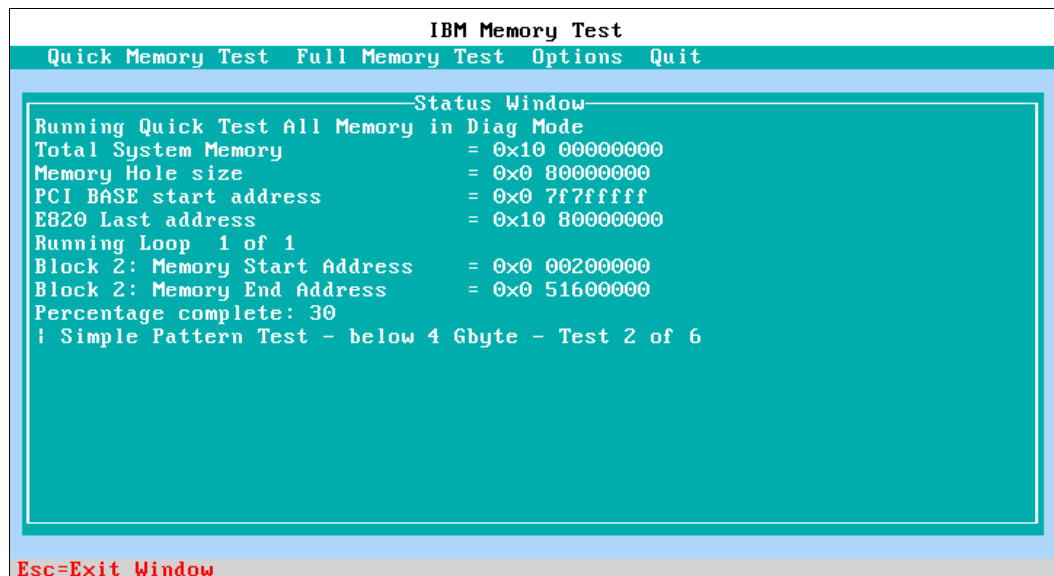

Figure 6-5 Quick Memory Test progress panel
3. The quick diagnostics continue to run, reporting the test that the quick diagnostics are performing currently and the length of time that it will take to complete that phase. If an error occurs, the quick diagnostics stop and indicate the memory errors that were encountered before progressing into more advanced diagnostics, as shown in Figure 6-5.